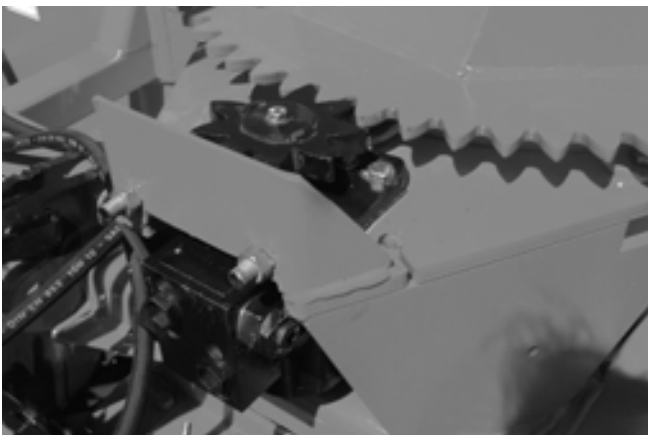

Figure 30
- 3) Install motor and 9 tooth gear. The thickness of the 9 tooth gear is slightly more than the ring-gear. Make sure it exceeds on both sides of the ring gear (Fig. 30).